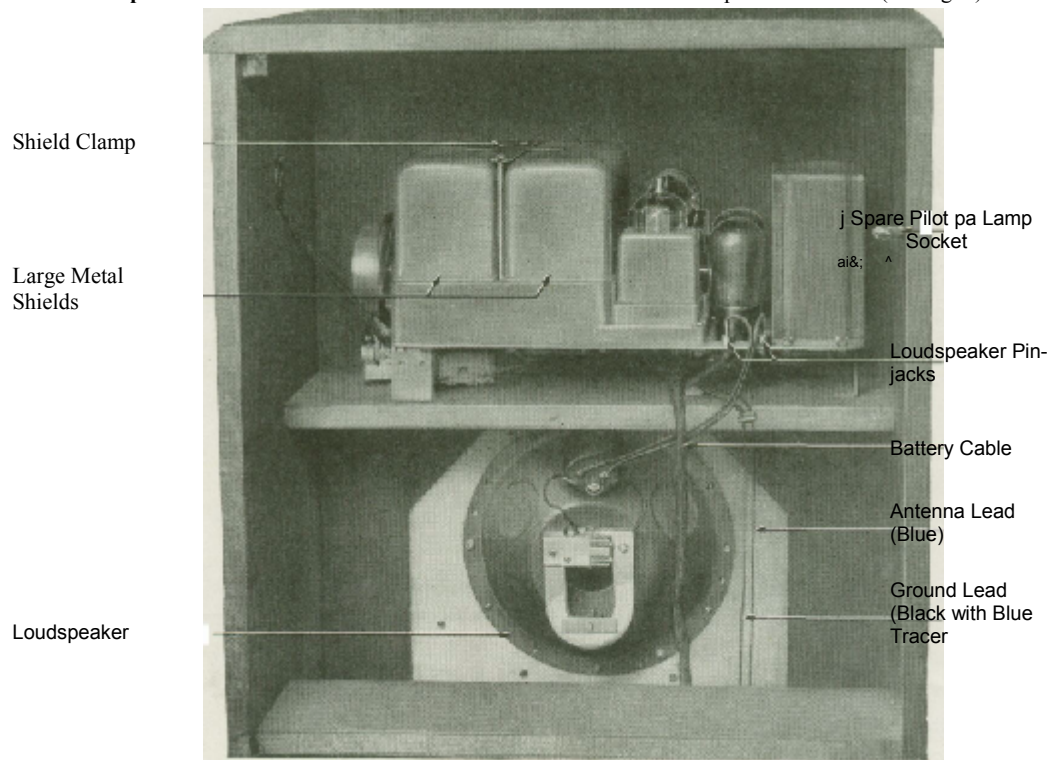
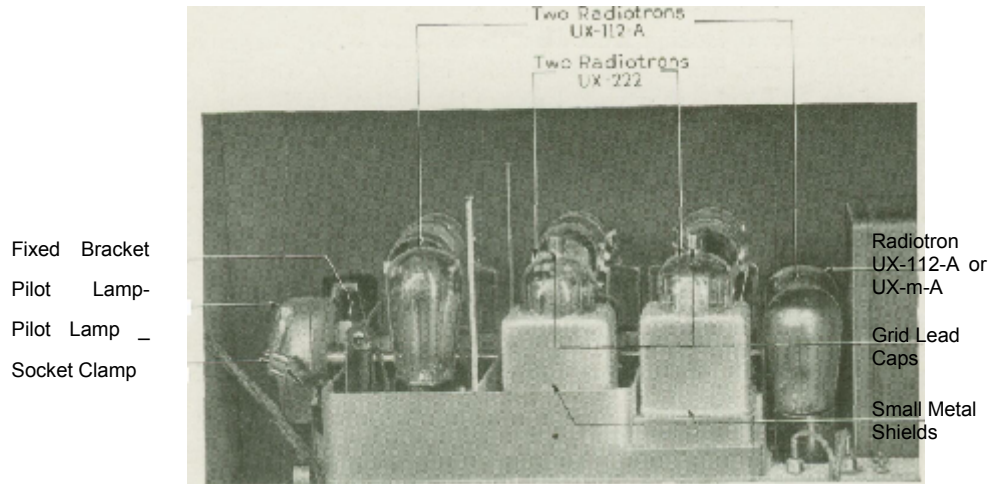

Fig. 5—Rear View of RCA Radiola 22 with Cover Removed
Fig. 6—Rear View with Large Metal Shields Removed—Showing Radiotrons and Pilot Lamp Mounting
**Preliminary**—After unpacking RCA Radiola 22, remove the rear cover. Remove the two red round-head screws, one in each side of the loudspeaker (see Fig. 5). Save these screws for use in the event of reshipment. Unwrap the battery cable and the antenna and ground leads.
Connect the antenna lead (blue) of the Radiola to the lead-in wire, and the ground lead (black with blue tracer) to the ground wire (see Figs. 5 and 8). Both connections should be soldered and insulated.
**Loudspeaker**—Make certain that all connections are secure at the loudspeaker terminals (see Fig. 5).
**Metal Shields and Radiotrons**—Press down on the shield clamp (Fig. 5) and pull the rear clamp bolt toward the rear of the cabinet far enough to free the clamp. Withdraw the shield clamp from the front clamp bolt and lift out the large metal shields. Handle the shields carefully.
The Radiotrons should be handled carefully. Insert them in the proper sockets, as shown in Fig. 6. Be sure that the two large pins enter the large holes, and that the base of each Radiotron rests squarely against the socket. After the Radiotrons are inserted, press the grid lead caps (Fig. 6) firmly down over the grid contacts of the UX-222 Radiotrons.
Push down on the small metal shields to make certain that they are firmly in place (see Fig. 6).
**Pilot Lamp**—Turn the Selector (Fig. 7) counter-clockwise to the extreme position, so that the pilot lamp mounting will be accessible. Remove the socket clamp from the fixed bracket and screw one of the pilot lamps firmly into the socket. (See Fig. 6.) Replace the socket clamp on its bracket. Insert the extra bulb into the spare pilot lamp socket (Fig. 5).